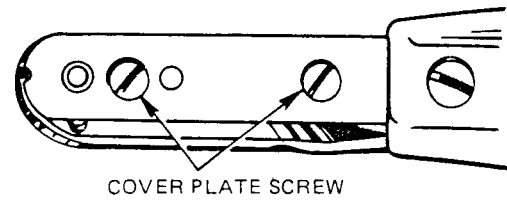
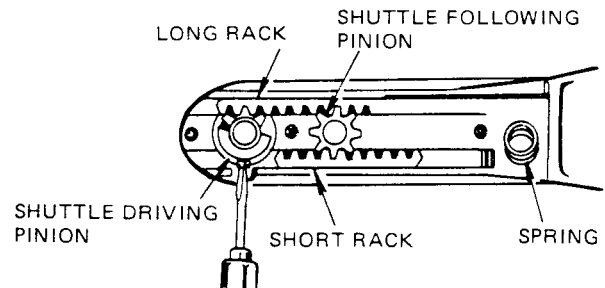
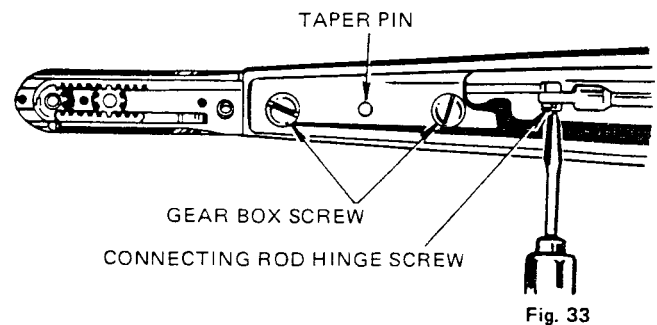
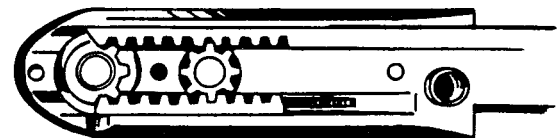

Fig. 31
Fig. 32
Fig. 33
Fig. 34
Remove machine from treadle stand or power bench after taking out the four screws located at the base of the machine. The machine should then be tilted back upon its machine pulley end, the underside facing the adjuster. Parts can be examined or removed from the rack box after taking out the two cover plate screws shown in Fig. 31 and removing the cover plate. The following parts are then exposed as shown in Fig. 32: long rack, short rack, shuttle following pinion, shuttle driving pinion, needle plate locating pin and spring, all of which can be removed without disconnecting the rack box from the machine.
To take out the shuttle carrier, remove the small set screw in the shuttle driving pinion by inserting a small screwdriver through the groove at the side of the rack box as shown in Fig. 32. The shuttle carrier can then be pressed through the pinion. To remove the long rack, insert a screwdriver through hole as shown in Fig. 33 and take out the hinge screw. Before proceeding to withdraw the rack, remove the shuttle following pinion then grip the rack and draw it straight toward the pulley end of the machine. The short rack and shuttle driving pinion can be removed without difficulty. When replacing any one or re-assembling the whole of these parts, care must be taken to see that the gears and racks are correctly engaged, as shown in Fig. 34.
If for any reason it is necessary to remove the rack box from the machine, proceed as follows: Remove the machine from its treadle stand or power bench. Turn the hand wheel until the connecting rod hinge screw, Fig. 33 is opposite the hole in the lower arm. Then tilt the machine back upon its machine pulley end, the underside facing the adjuster. Insert a screwdriver through the hole as shown in Fig. 32, and remove the screw. Slightly loosen the two gear box screws by giving them a half turn with a screwdriver. Then drive out the taper pin, using a 3/16" punch and hammer, and take out the two gear box screws. The machine should now be replaced on its feet and the horn will then come away if pulled in a horizontal direction.
When re-assembling the box to the machine, be sure that the taper pin is driven in as far as it will go before finally tightening the two screws shown in Fig. 33.
**NOTE:** Cover plate is shown removed in Fig. 33 to illustrate how the gears and racks should be correctly engaged.